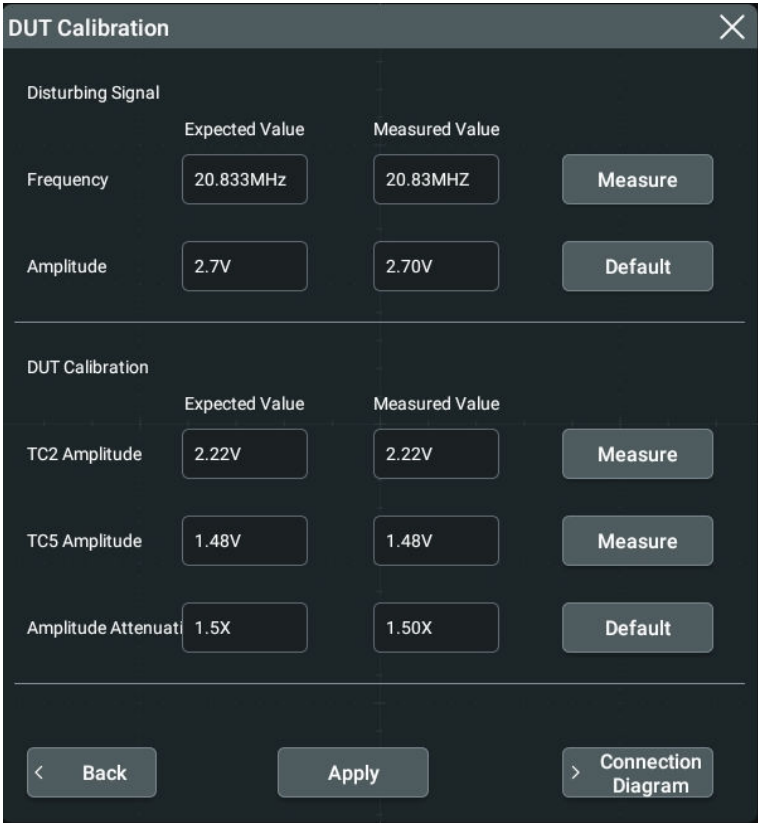

Figure 4.42 Fixture Calibration
3. In the Configuration menu, click or tap **Calibration** to enter the fixture calibration menu, as shown in *Figure 4.42*.